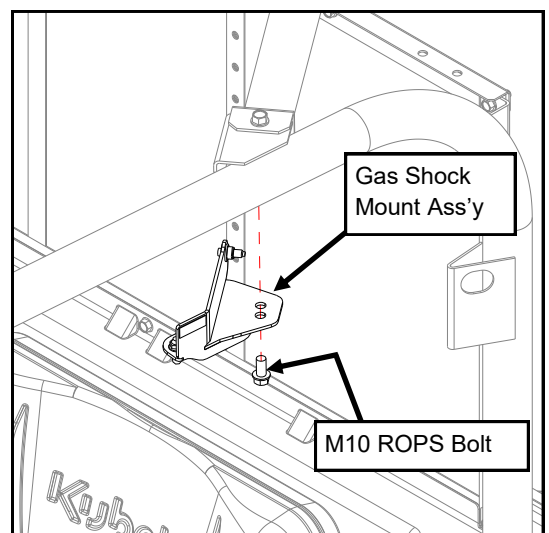

Fig. 12
12. Remove lower ROPS bolt (M10) from left end of ROPS upper rear cross member. Save for re-use. (see fig. 12)